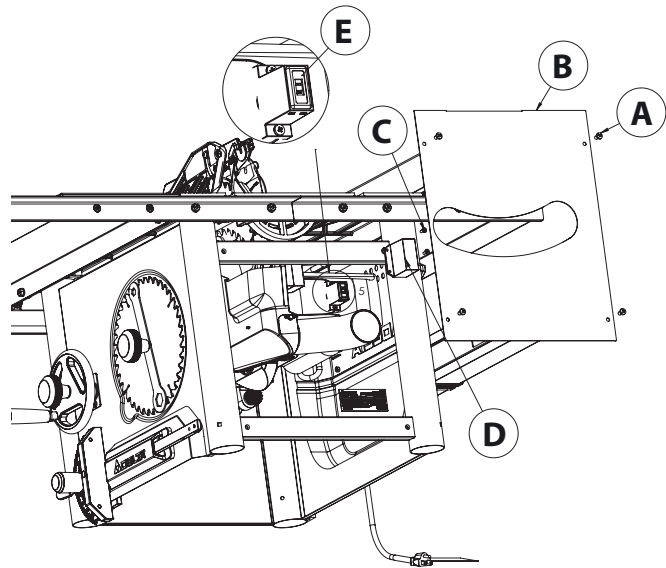

FIGURE 38
1. Remove 4 screws (A) Fig 38 and remove rear panel (B).
2. Remove 2 screws (C) and remove plastic cover (D).
3. Slide switch (E) from 120v to 240v position.
4. Replace cover (D) and 2 screws (C).
5. Replace rear cover B and 4 screws (A).